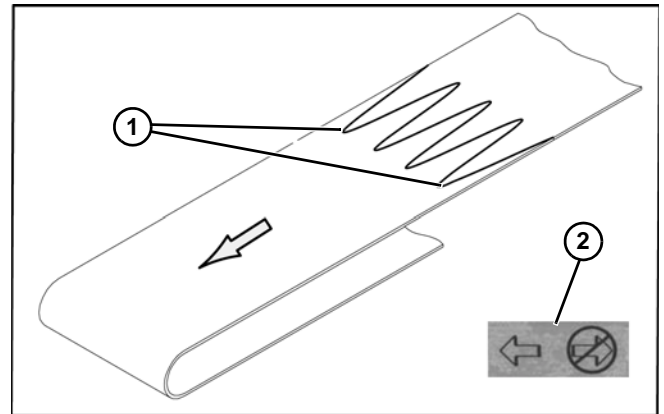

**Figure 54**
5. Reattach air supply (**Figure 54, item 1**) to center drive. Refer to “Conveyor Belt Tensioning” section on page 31 for more information.
7. Reattach air supply (**Figure 54, item 1**) to center drive. Refer to “Conveyor Belt Tensioning” section on page 31 for more information.